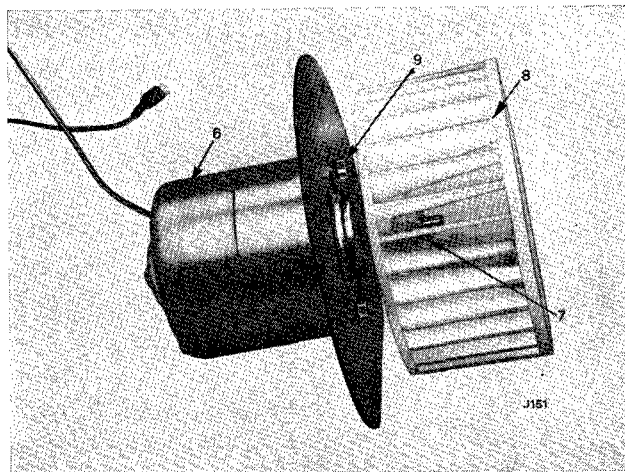

Fig. 127. Fan attachment (Delaney Gallay)
Release the clip (7) (Fig. 127) retaining the impellor to the blower motor shaft and pull the impellor (8) away from the shaft. Remove two nuts (9) retaining the motor to the mounting plate.